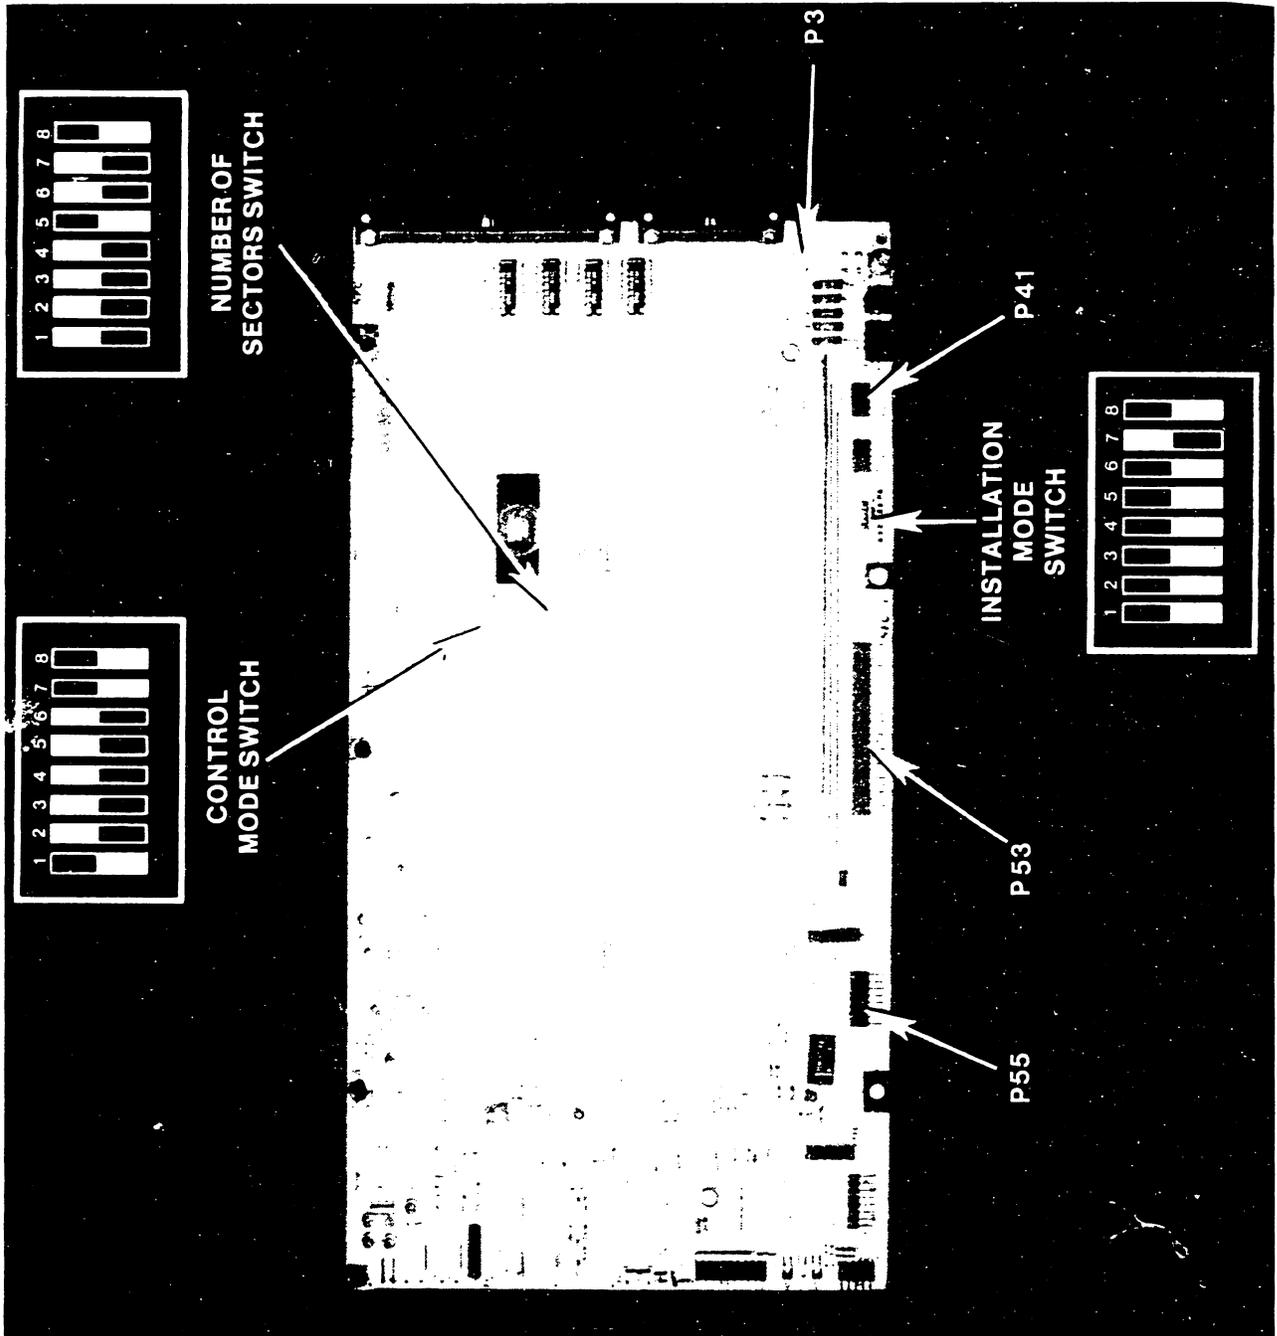

Figure C-20. Disk Drive Logic and Servo PCB
3. Remove the three signal cables from P55, P53, and P41 on the top of the Logic/Servo board (figure C-20). Remove the 9-pin power connector P3 on the rear of the board. Note the positions of the cables for reinstallation.
5. Check each of the three switches as shown in figure C-20. They must be set as shown in the figure. The Number of Sectors and the Control Mode switches have clear plastic covers that must be removed before the switches can be set. Make sure to put the covers back on before reinstalling the board.